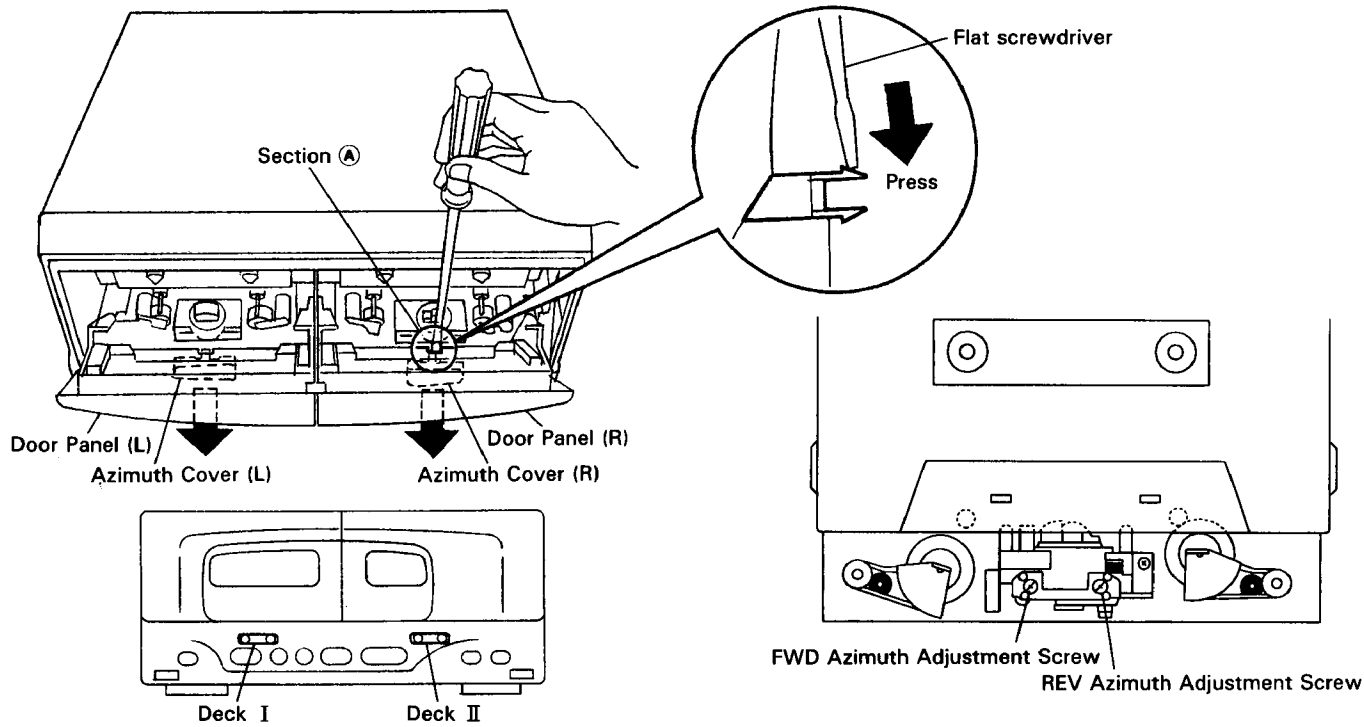

Fig. 2-3 Head Azimuth Adjustment
- Adjustment points and test points are shown in Fig. 2-3 and Fig. 2-4.
| 1    | NORMAL               | PLAY | STD-331E test tape (Playback: 10kHz, -20dB) | Deck I           | Head azimuth adjustment screw (Fig. 2-3) | CN1001 Pin15 (L) or Pin16 (R) (TC. MAIN Assy) | Max. playback signal level | After adjustment, apply silicon bond to the head azimuth adjustment screw. |